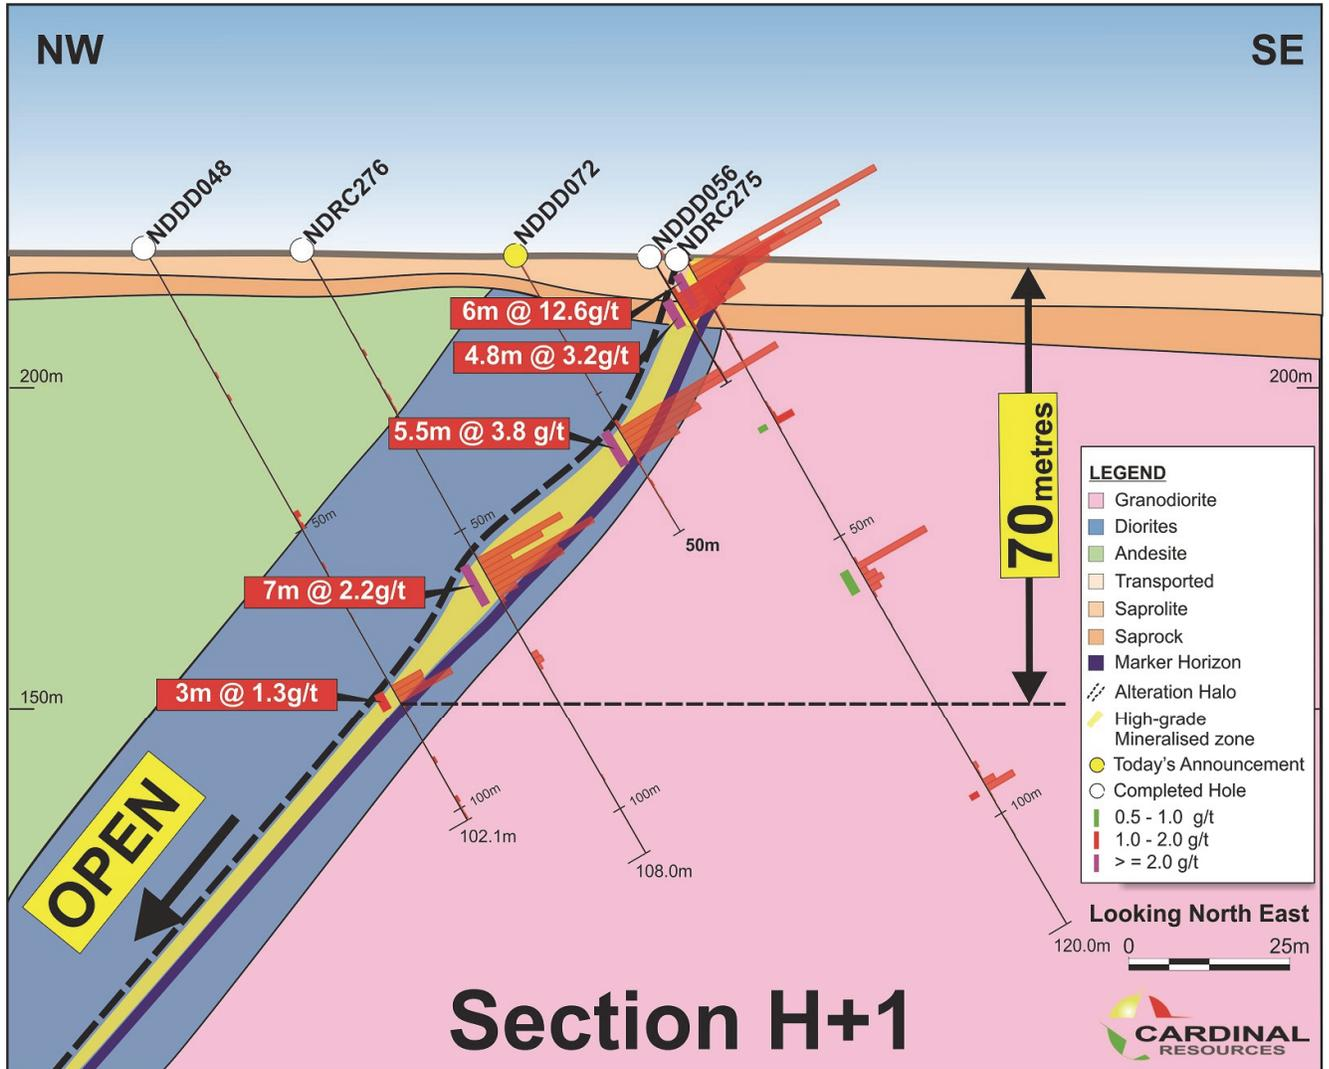

Figure 5: Ndongo East Prospect Section H+1 – H+1
**Drill Section H+1 – H+1** (Figure 5) shows drill hole NDDD072 which intersected a shallow gold mineralised halo with encouraging grades of 5.5m@3.8g/t Au from 31m and previously announced drill holes. Refer to the full results in Table 2 in Schedule 1.